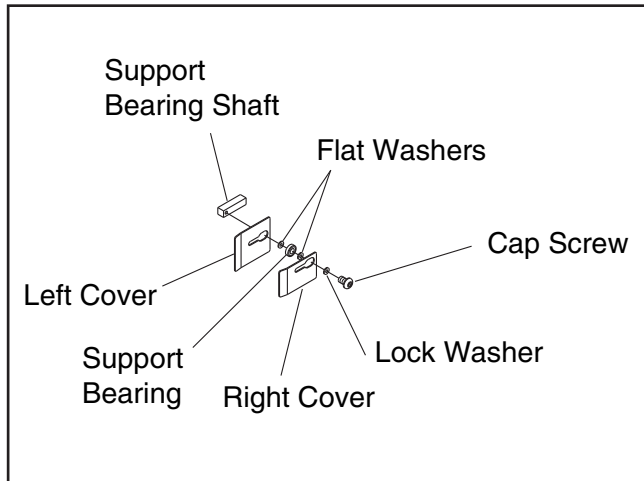

Figure 6. Lower support bearing assembly.
10. Insert the new cap screw with the lock washer and flat washer through the support bearing and other flat washer as shown in **Figure 6**.
13. Insert the left and right covers over the cap screw on either side of the support bearing as shown in **Figures 6 & 8**, then tighten the cap screw.